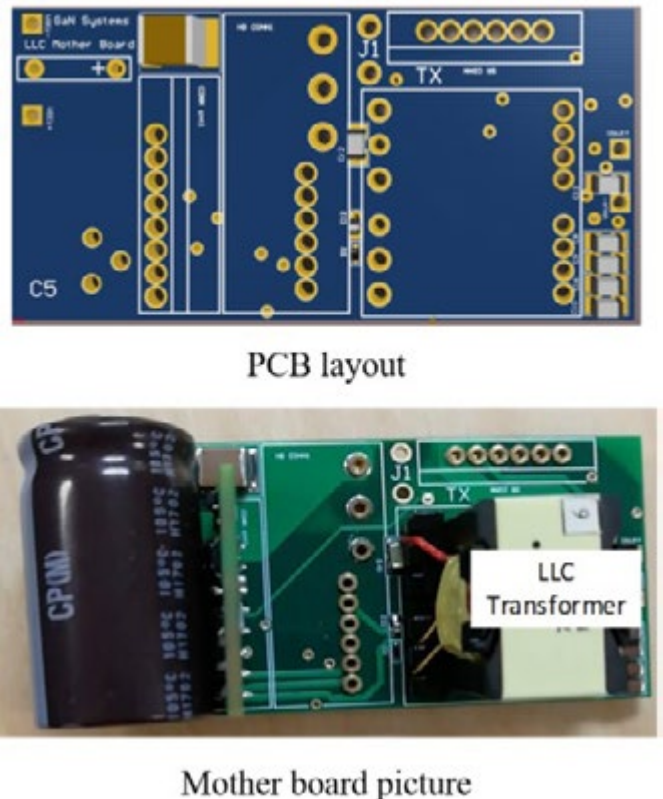

Figure 10: Designed GaN-based LLC Resonant Converter Prototype
Mother board with input capacitor, output filter, and integrated transformer (69mm (L) × 34mm (W)) is shown in Figure 10. Three slots are provided on the mother board for PCB board #1, PCB board #2, and PCB board #3 to be inserted.